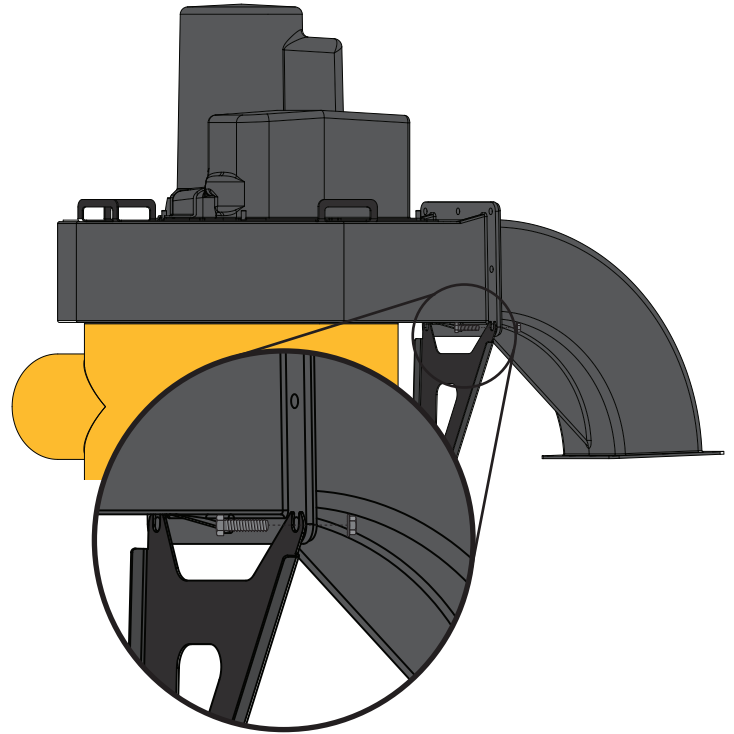

FIG. 9
Attach the flat top of the Support Brace (L) to the lower corners of the Fan Housing (B) and Filter Plenum Elbow (J1). Secure with two Flange Bolt (K2A) and two Whiz-Lock Nuts (K2B). [FIG. 9]